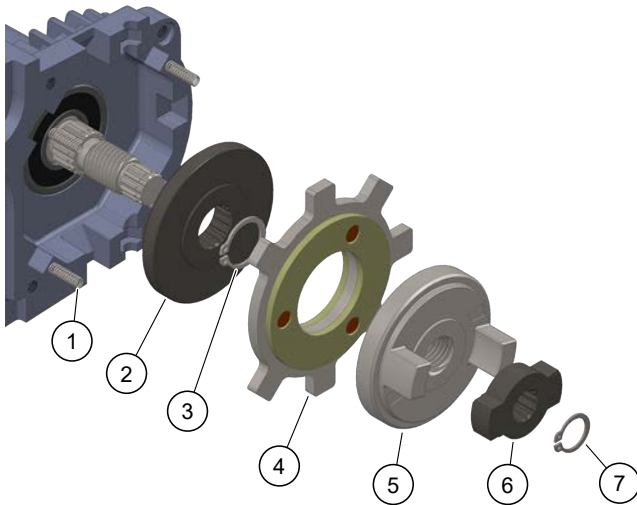
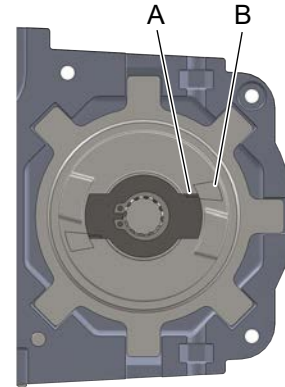

Figure 13. Brake Assembly
Figure 14. Brake Alignment
Disassemble the unit to access the brake components. Refer to Fig. 13 below, and remove the snap ring and the brake hub driver. For adjustment, hand tighten the brake hub to fully seat all components. Re-install the hub driver, making sure the hub driver pointer is inside the alignment zone as shown below in Fig. 14. The brake hub must remain tight during the alignment process for proper orientation.
For replacement, remove all existing brake parts shown in Fig. 13. Ensure all parts are clean, and all four springs are installed in the frame during reassembly. Carefully apply a thin coat of Extreme High Temperature Grease to the threads of the Brake Hub (item 5). Make sure no grease comes in contact with the friction surfaces. Follow the brake adjustment procedure outlined above after installing the remaining brake parts.